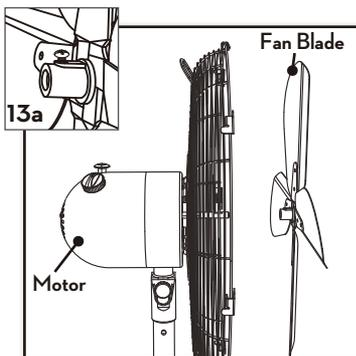

Figure 13
4. Loosen the screw on the back of the blade assembly. Figure 13a. Slide the blade assembly onto the motor shaft. Figure 13.